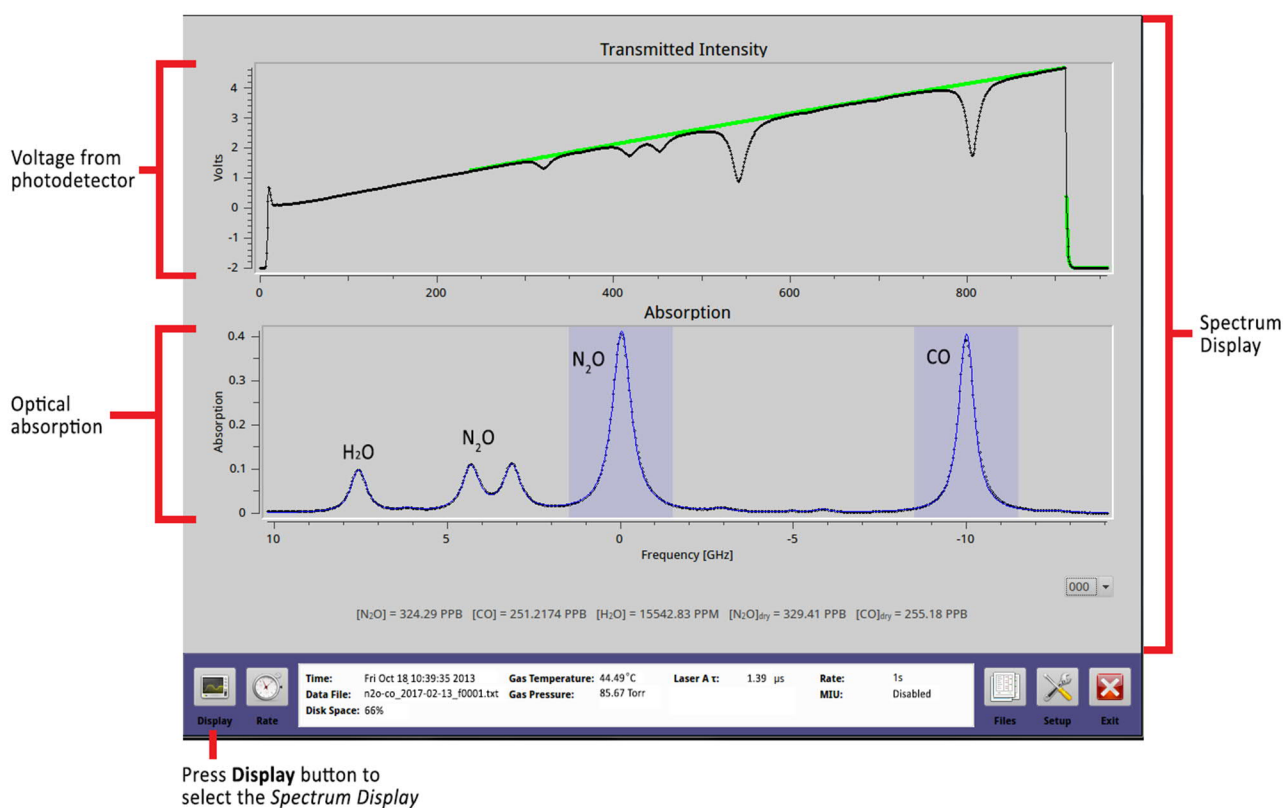

Figure 30: Spectrum Display (GLA351-N2OCM)
- *Spectrum Display* – Displays the raw and fitted spectral scans. (Figure 30)
Figure 30 shows the *Spectrum Display* for the GLA351-N2OCM.